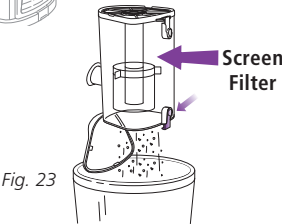

Fig. 23
- 3 If needed, turn the dust cup upside down over the trash receptacle and press the top door release button. **(Fig. 23)** Tap gently to remove contents. Use a dry cloth or paper towel to remove debris stuck to the screen filter inside the dust cup. Press the door shut again until it clicks.